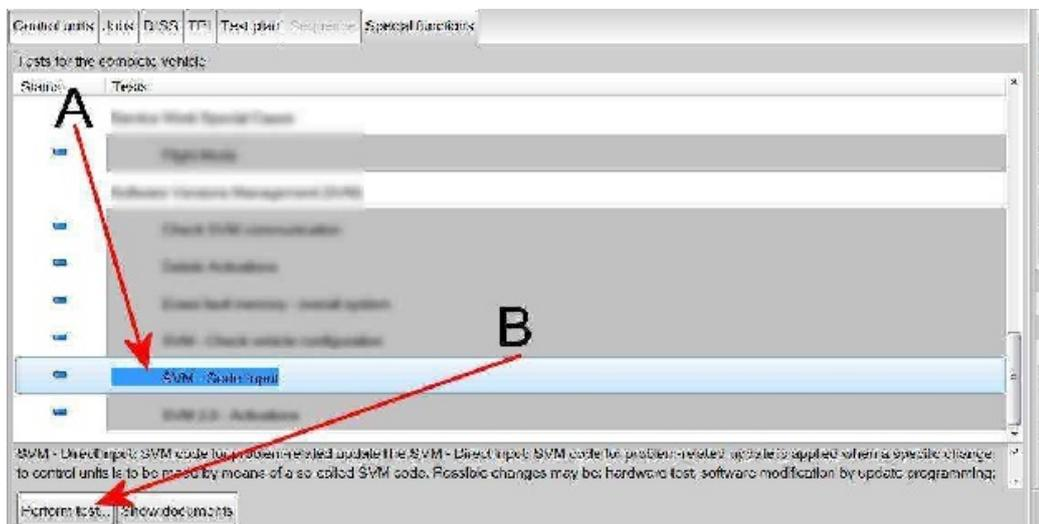

Figure 1
- Because of the highest transmission stability you **MUST** use the diagnosis interface VAS 6154 (WiFi diagnostic tool) **ONLY** in USB operation or the cable-connected VAS 5055 for the reprogramming (updating) of control modules. If these units are not available, the diagnosis interface VAS 5054 (A) can also be used in USB mode
4. Referring to Figure 1 - Within the Special functions tab - Select SVM - Code Input (Point A)